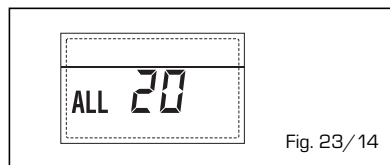

Fig. 23/14
**- ANOMALIA GUASTO SONDA MANDATA PRIMA ZONA MISCELATA "ALL 21" (fig. 23/15)**